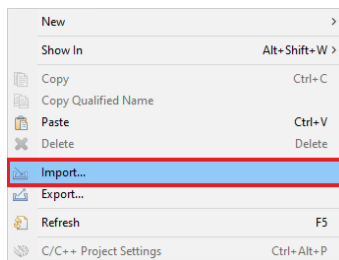

Figure 15. Right-click Menu to Import the Bootloader Project
1. Import the MCUboot software project that contains the python script and is used in the image generation process. *Note:* This is the bootloader project **not** the application software that runs from the target image. Ensure the **ra4e1_iso_dongle_mcuboot_v_1_0.rar** project archive file is already available. Right-click in the e² studio Project Explorer view and select **Import** from the menu showing up to open the Import Wizard (Figure 15).
10. The next step is to configure the existing application to use the bootloader project. The software project that has to run on the dongle is duplicated and renamed so that the original can be still debugged using external debugging tool during further code development. Keep in mind that the binary size must be smaller or equal to 96-KB. This is the fixed image size and dedicated memory space in the code flash. It cannot be exceeded! Right-click in the e² studio Project Explorer view and select **Import** from the menu showing up to open the Import Wizard (Figure 15).